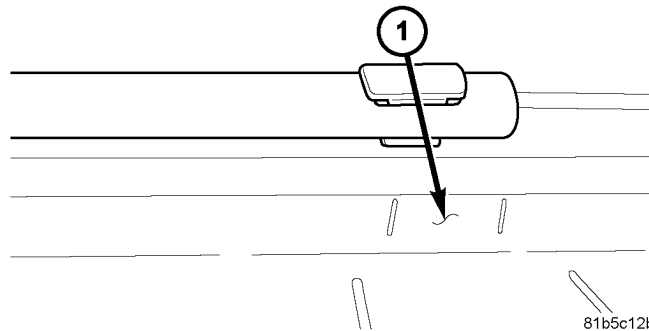

Fig. 3 CLIP TO ALUMINUM GUIDE LOCATION
5. Snap the cable conduit into the retaining features in the rear bulk head (5 places) with the end of the tube retained in spring clip on the aluminum guide. Ensure the clip is within the provided scribe lines on aluminum guide, (Fig. 3).